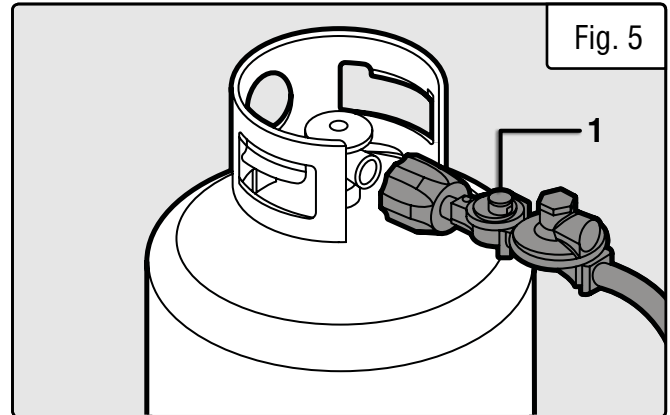

Fig. 5
2. With the LPG tank valve closed, attach the LPG regulator connecting hose (Fig. 5 - 1) to the valve. Turn the plastic coupling from the hose right (clockwise) to tighten hose assembly onto the LPG tank.